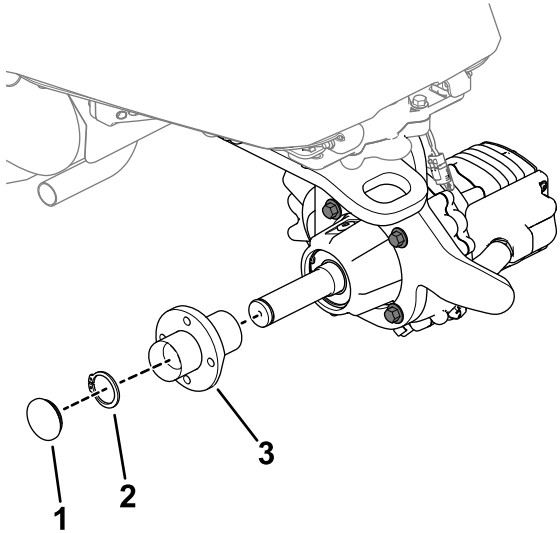

Figure 2
1. Remove the dust cap from the hub assembly (Figure 2).